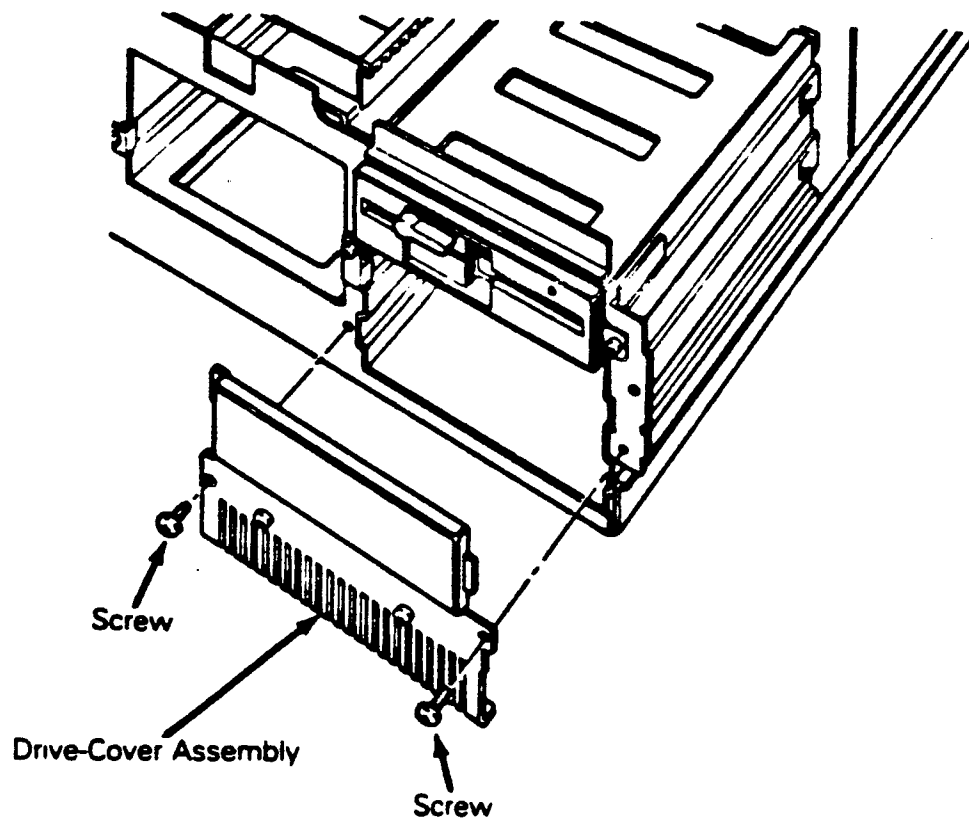

Figure 1-5. Cover Plate Removal
11. Remove the cover plate mounted under the floppy disk drive on the right side of the CCA chassis (refer to Figure 1-5).